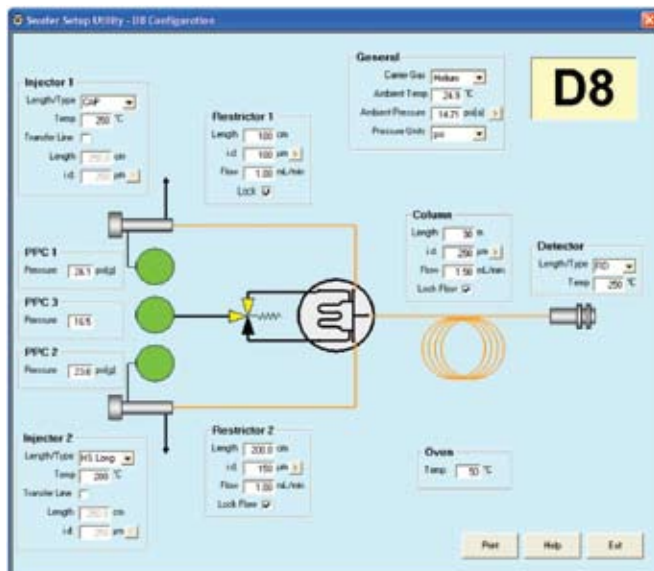

Figure 6. The D8 calculator for inlet selection.
Figure 6 shows the D8 calculator for another configuration of the D-Swafer. In this case, the system is being used to switch the inlet of a single column between a capillary (split/splitless) injector and a headspace (HS) system. The calculator calculates the necessary pressure at each of the two inlets to deliver the required flow rate. The calculation takes into account the effects of the heated transfer line on the gas flow rate from the HS system. During operation, only one of the inlets would be set to this pressure: the other would have a reduced pressure to disable it.